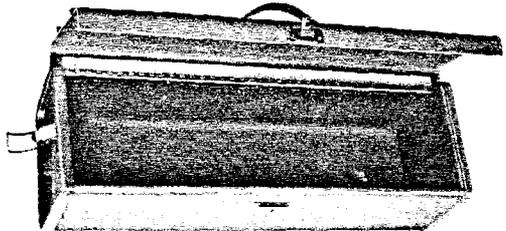

Fig. 12—D Test Connector Case for Storing B Test Connector
13.02 The D test connector case (Fig. 12) consists of a lightweight plastic box with a hinged cover, a carrying handle, a latch, and two snap catches. Supports are provided for holding the test connector in place.